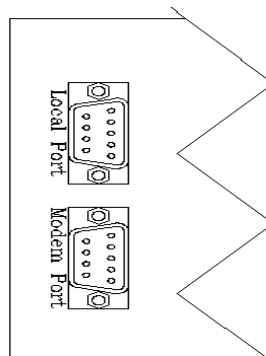

Figure 21 - EECO 1500 Serial Port Identification
- Plug the Modular Adapter into the Local Port at the ATG console. Refer to Figure 21 for the Local Port location.